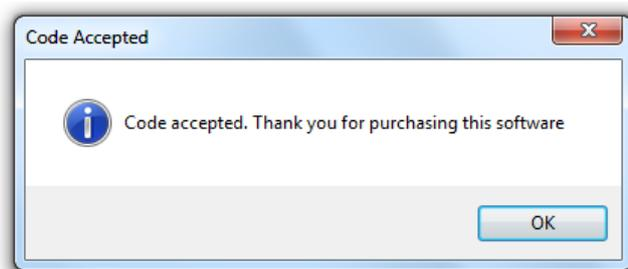

Figure 2-13, Code Accepted Confirmation Dialog
- 6) Enter the **Activation Code** and click the **Activate** button. If the code is correct then the Code Accepted dialog, figure 2-13, will be shown.